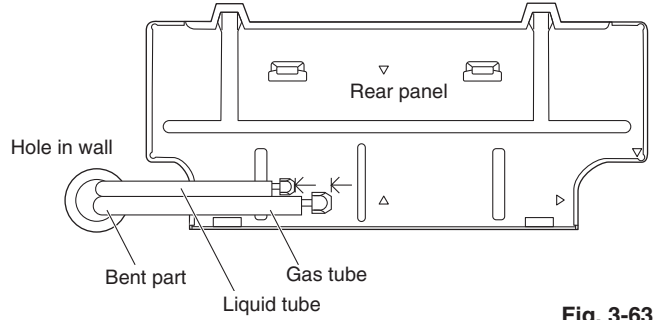

Fig. 3-63
(1) Lead the tubing and drain hose through the wall, allowing sufficient length for connection. Then bend the tubing using a tube bender to make the attachment. (Fig. 3-63)